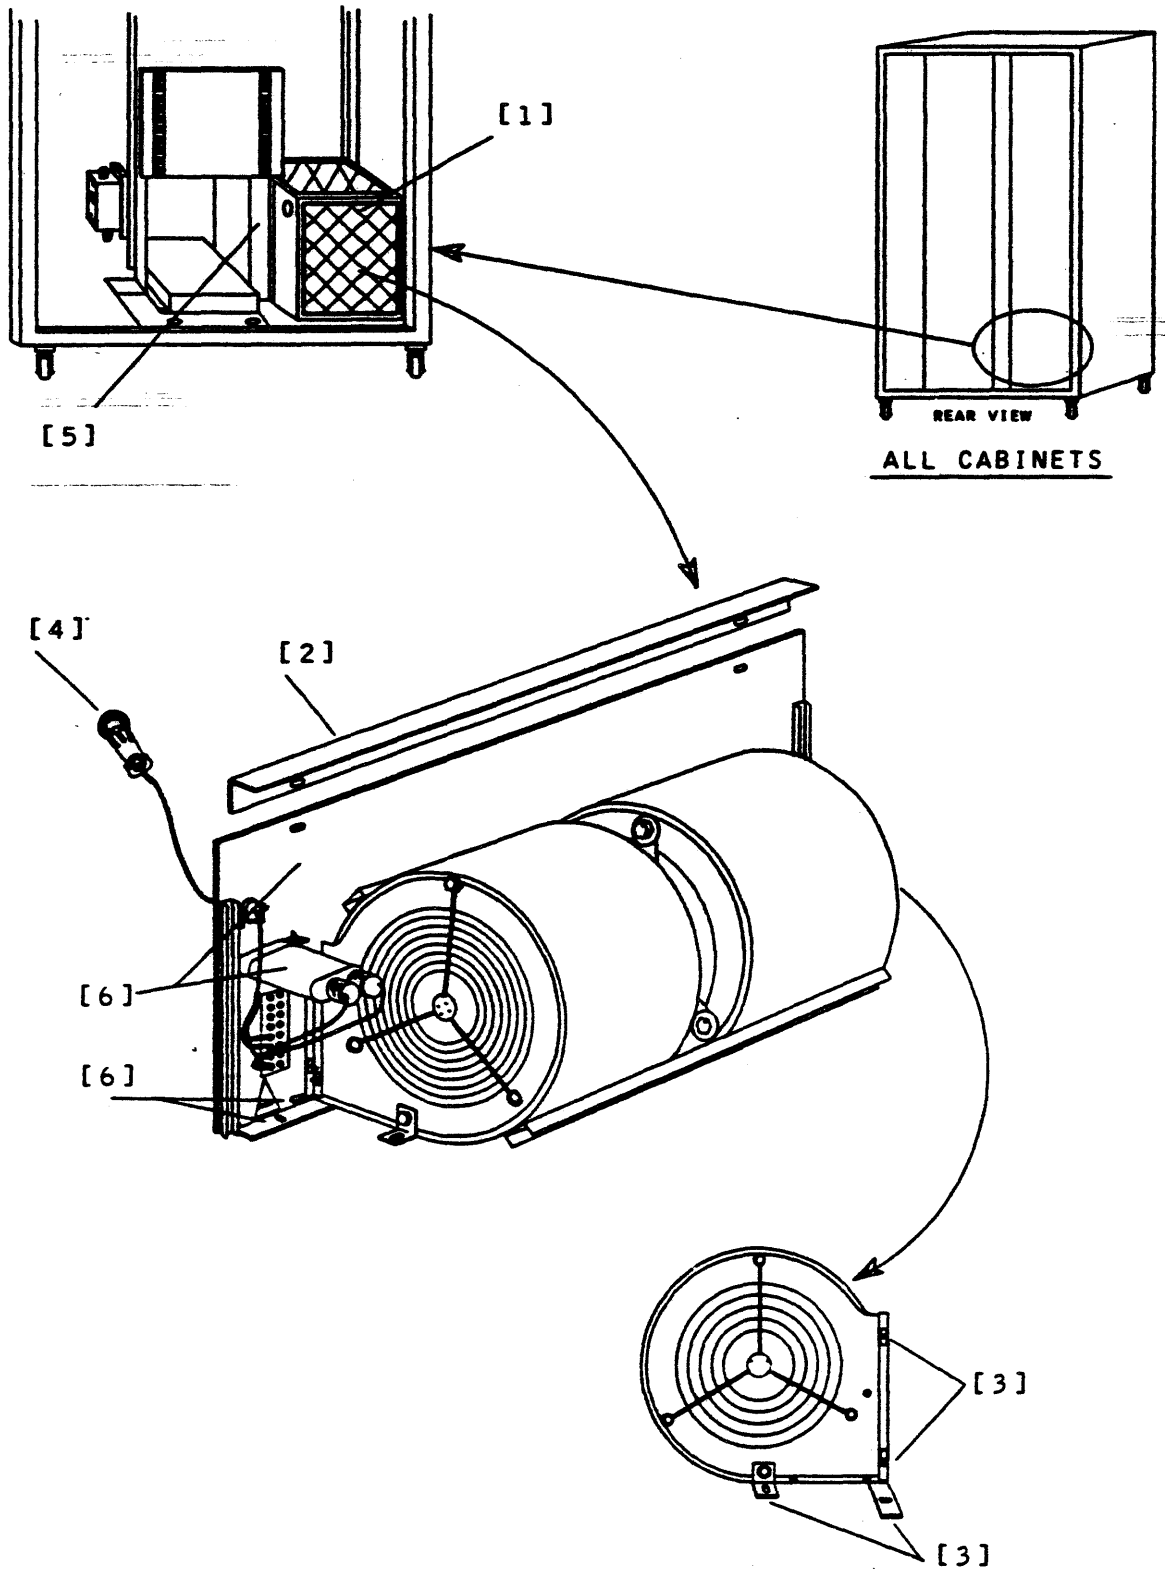

FIGURE 2.5-1. BLOWER ASSEMBLY REMOVAL/INSTALLATION
7. Using cross-tip screwdriver, remove front and rear support bracket retaining hardware from blower assembly - remove bracket from cabinet (Figure 2.5-1, [2]).
9. Disconnect rear connector plug ZM1-P3 (Figure 2.5-1, [4]).
10. Using cross-tip screwdriver, remove lower rear plenum cover (allows room to move blower assembly) retaining hardware (Figure 2.5-1, [5]).